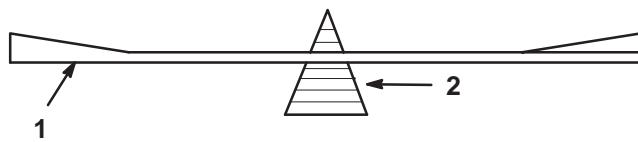

Figure 31
- Check the balance of the blade by putting it on a blade balancer (Fig. 31). If the blade stays in a horizontal position, the blade is balanced and can be used. If the blade is not balanced, file some metal off of the back side of the blade. Repeat this step until the blade is balanced.